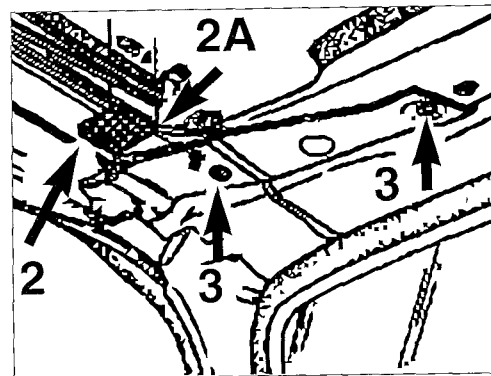

Figure 4
Repair: 3.1 - Shorten the corner plate bracket in the area of the bearing block holes (arrow 2, Figure 4).
- Remove the allen head screws (arrow 2, Figure 4).
- Remove the area indicated by crosshatch at area 2 in Figure 4.
- Cut off the hatch-marked part at a length of 25 mm (arrow 2A, Figure 4).